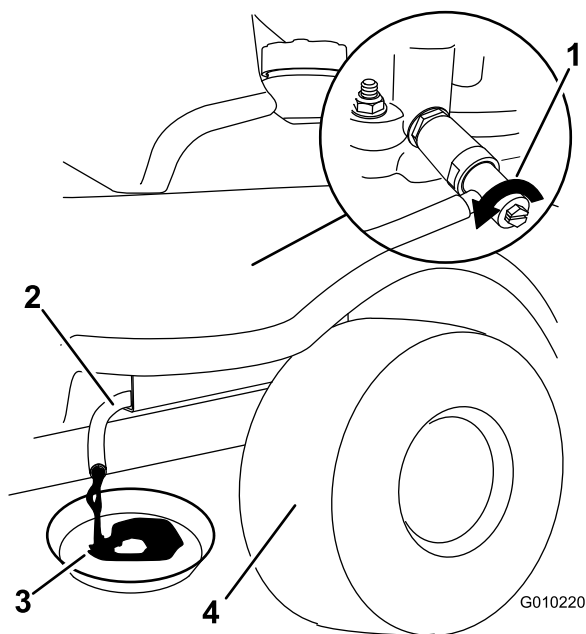

Figure 36
6. Place a pan below the drain hose. Open oil drain valve to allow oil to drain (Figure 36).
8. Remove the drain hose (Figure 36).